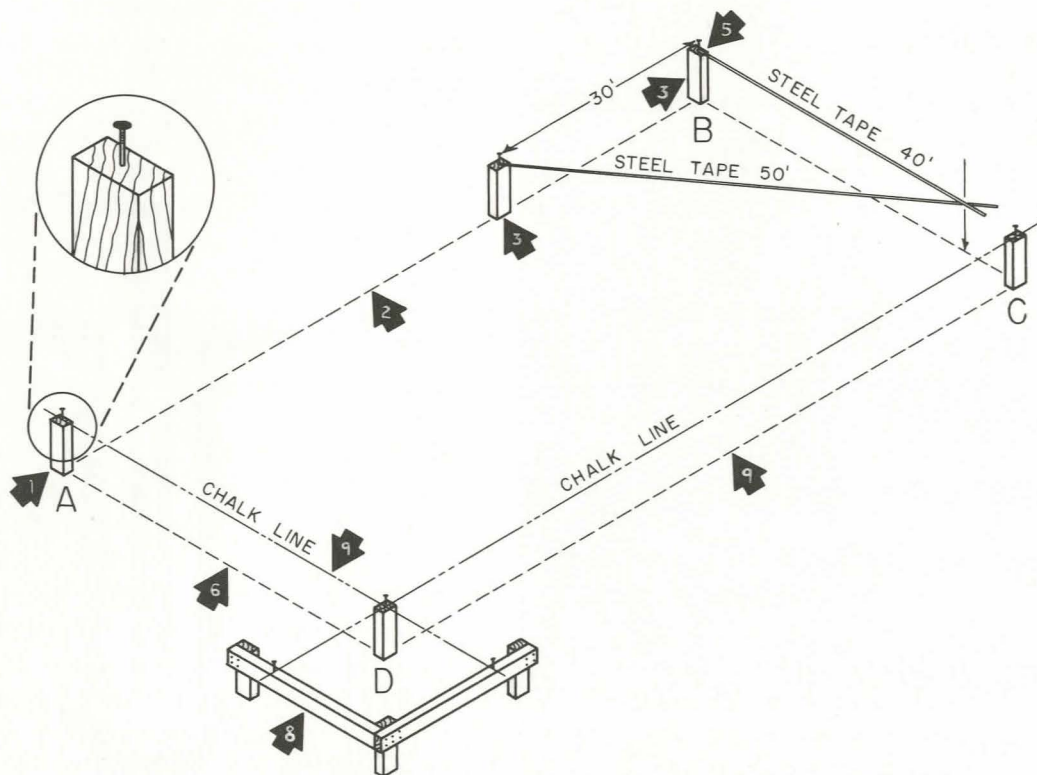

Fig. 2.
1. Locate and set corner stake A. Drive a nail in the top of the stake to locate the exact corner (see Fig. 2).